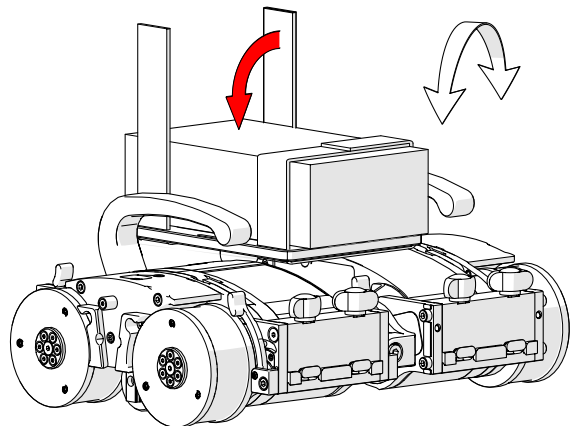

Fig. 290 - Use velcro straps
4. Pull the Velcro straps tight around the item on the backpack (Fig. 290).